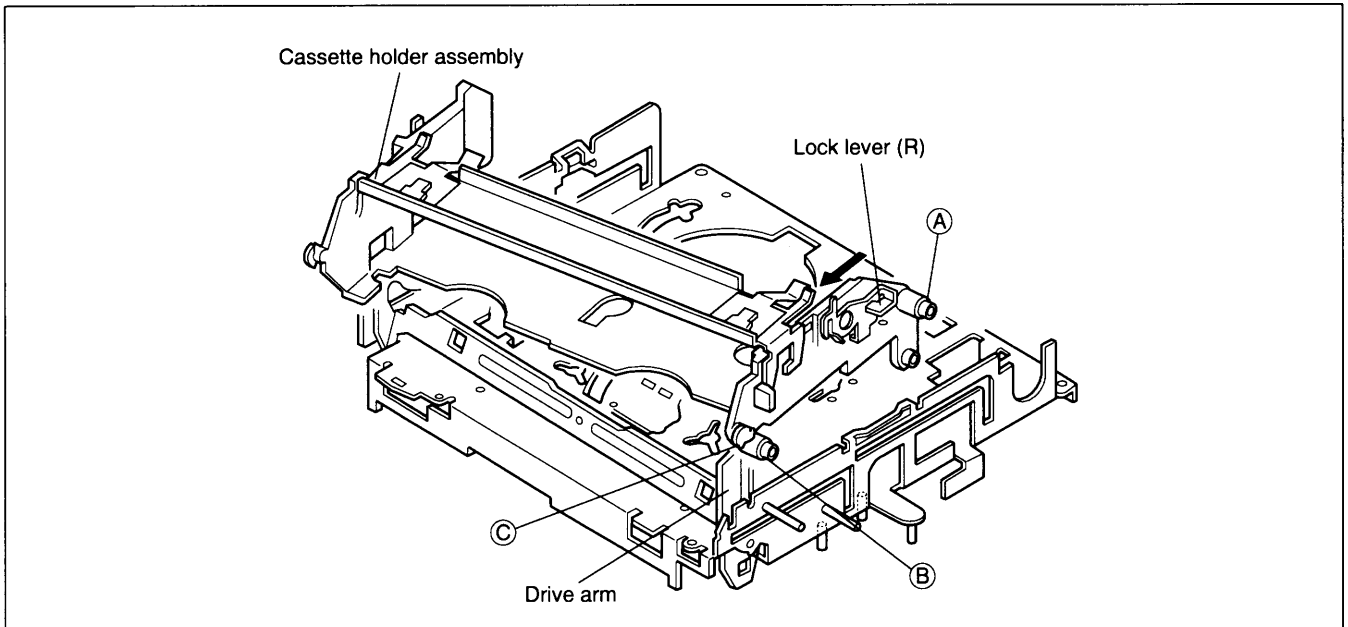

Fig. 2-2-7
- (1) Hold the drive arm upright and fit the leg (C) on the right side of the cassette holder assembly into the groove. (See Fig.2-2-7)
- (2) While swinging the lock lever (R) of the cassette holder assembly toward front, put the legs (A) and (B) into the rail. (See Fig.2-2-7)